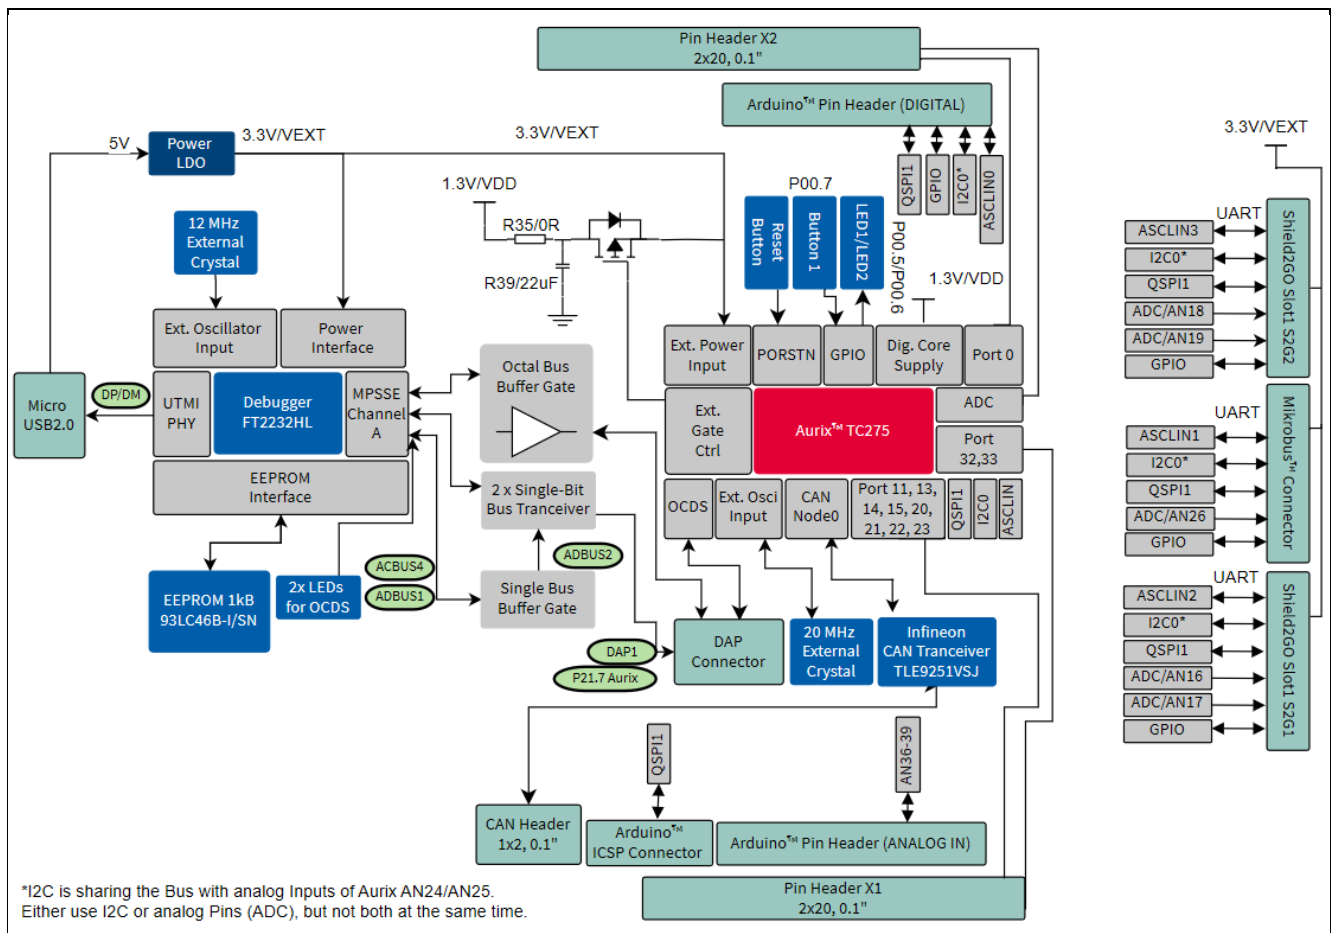

Figure 1 **Block Diagram of the AURIX™ TC275 Lite Kit**
- The block diagram in Figure 1 shows the main components of the AURIX™ Lite-Kit V1.1 and their interconnections.